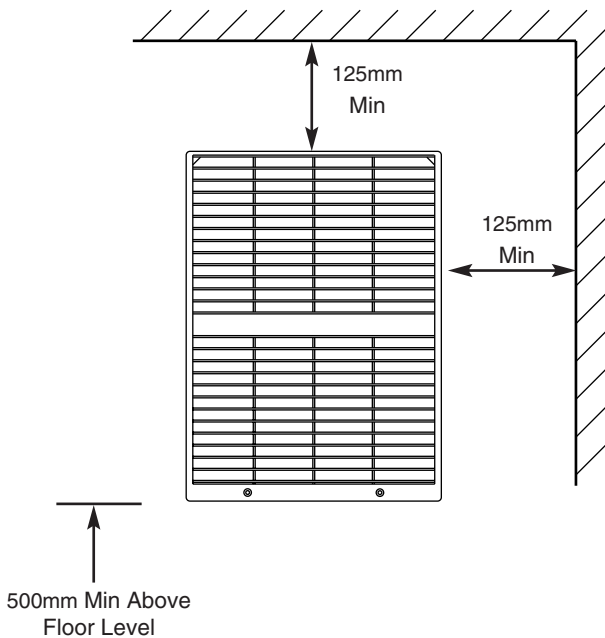

Fig. 3
12. The internal grille surround must be sited at least 125mm away from any wall or projecting surface (Fig. 3).